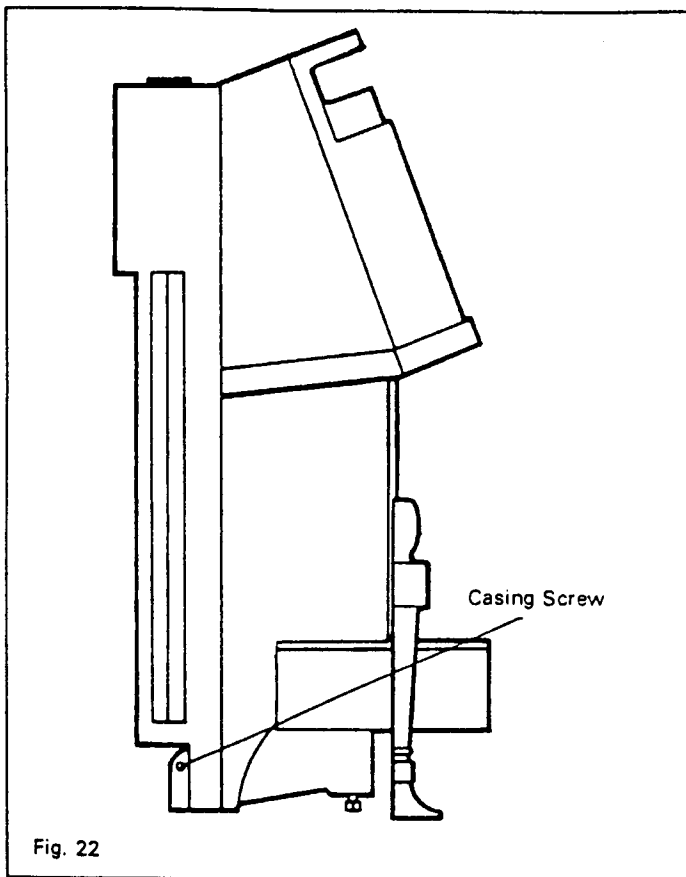

Fig. 22
- (a) Locate the outer casing assembly over the furnace. Attach with a knurled screw each side at bottom rear of the case. **Make sure** that the casing sides are located **outside** of the back panel. Fig. 22.